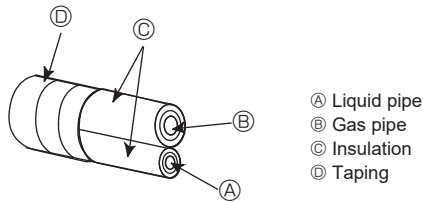
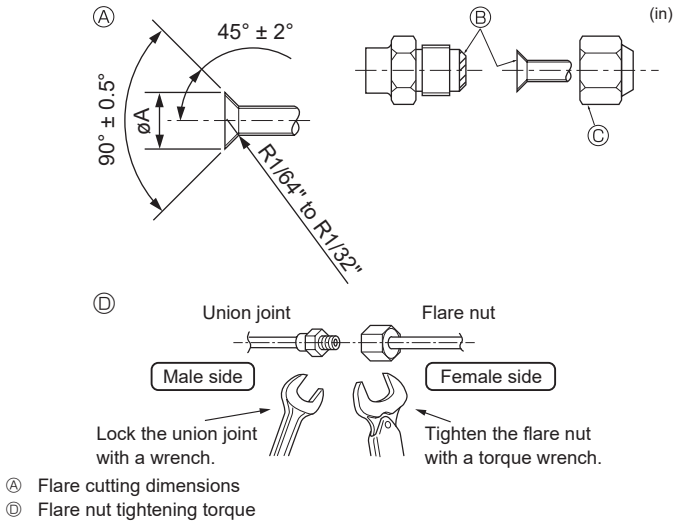

Fig. 4-6
Fig. 4-7
Ⓐ (Fig. 4-7)
4.3. Connecting pipes (Fig. 4-6) (Fig. 4-7)
- [Fig. 4-7]
- ① Pipes must be connected starting from the indoor unit. Flare nuts must be tightened with a torque wrench.
- ② Flare the liquid pipes and gas pipes and apply a thin layer of refrigeration oil (Applied on site).